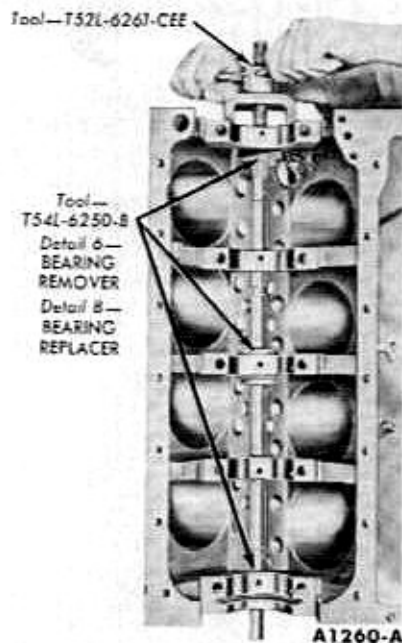
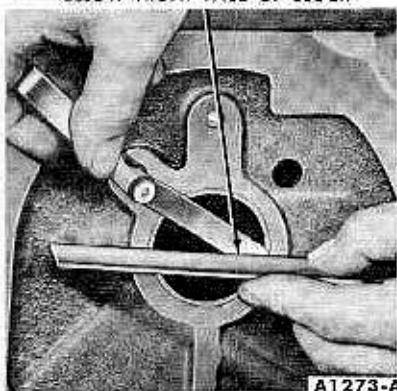

FIG. 22—Camshaft Bearing Removal or Installation
FIG. 32—Camshaft Front Bearing Measurement
Drill a 1/2-inch hole in the camshaft rear bearing bore plug and use tool T-7600-E to remove the plug. Remove the camshaft bearings (Fig. 22).
1. Position the new bearing at the bearing bore, and press it into place with the tool shown in Fig. 22. Align the oil holes in the bearing with the oil holes in the cylinder block when the bearings are installed. Be sure the camshaft front bearing is installed 0.005-0.020 inch below the front face of the cylinder block (Fig. 32).